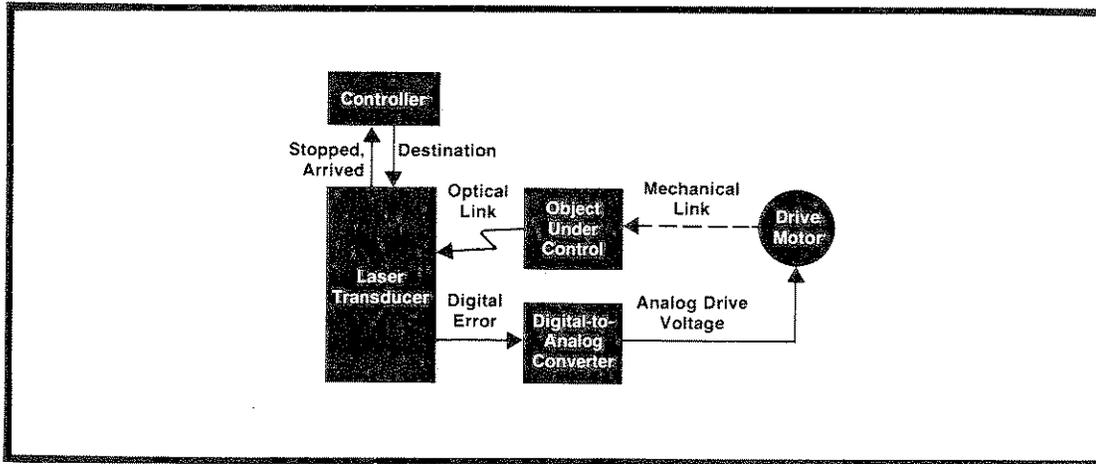

Figure 3-4. Comparator-Based (Closed-Loop) System Simplified Block Diagram
3.7 COMPARATOR-BASED (CLOSED-LOOP) SYSTEMS. A special case of laser transducer applications occurs in certain comparator-based (closed-loop) systems, such as that shown in *Figure 3-4*. The system controller sends the laser transducer system a digital representation of the destination of the object under control. The transducer system then takes over the task of measuring the object's position on a real-time basis, comparing it with the desired position, controlling the drive motor, and indicating when the object under control has arrived at its destination.